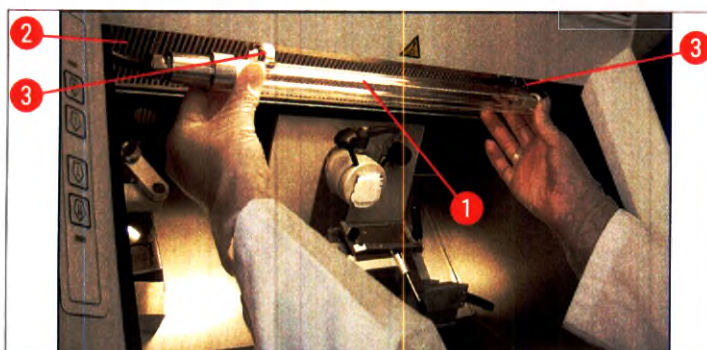

Fig. 63
2. Detach the metal ring (→ Fig. 64-1) on the holder (→ Fig. 64-2) in the direction of the arrow (→ Fig. 64-3) and carefully pull the lamp out of the holder with your right hand (→ "Fig. 63") (→ "Fig. 64").